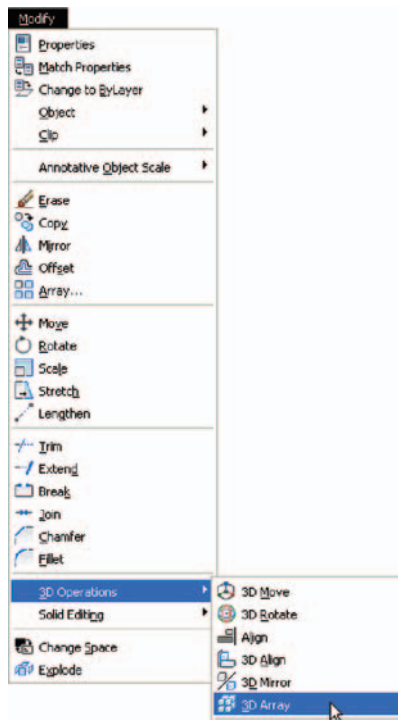

Fig. 14.11 Selecting 3D Array from the Modify/3D Operations drop-down menu
2. Click on the **3D Array** icon in the **Modify/3D Operations** menu (Fig. 14.11). The command line shows: